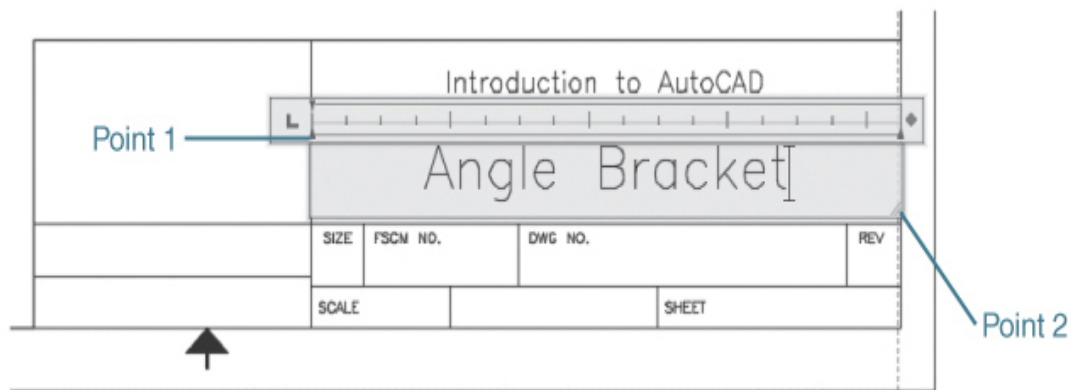

Figure 2-54
- 10** Pick the endpoints at point 1 and point 2 shown in Figure 2-54. The **Text Editor** context tab of the ribbon replaces the **Home** tab of the ribbon at the top of the screen, and a flashing text cursor is displayed at the upper-left corner of the text box.